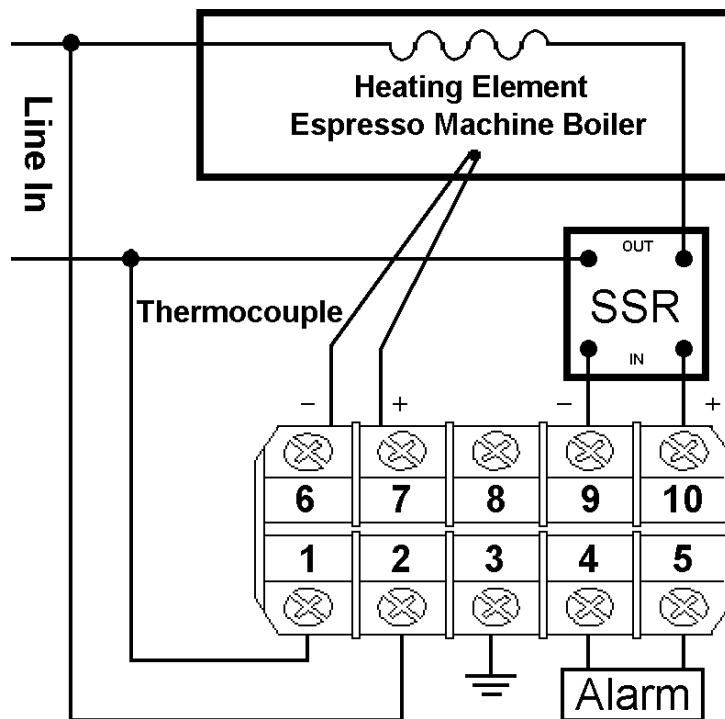

Figure 8
- See Figure 8 for connection diagram